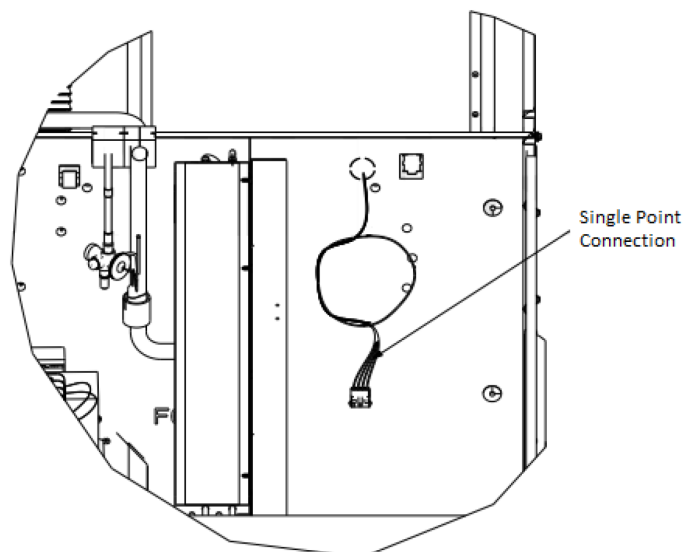

FIGURE 4 - SINGLE POINT CONNECTION
5. Plug the other end of the high voltage harness into the unit single point connection on the partition panel. (Fig. 4)